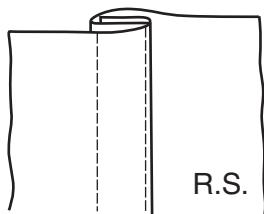

Fig. 3
- (c) Fig. 3 shows the seam used to make the shirt.
Name the seam shown in Fig. 3.